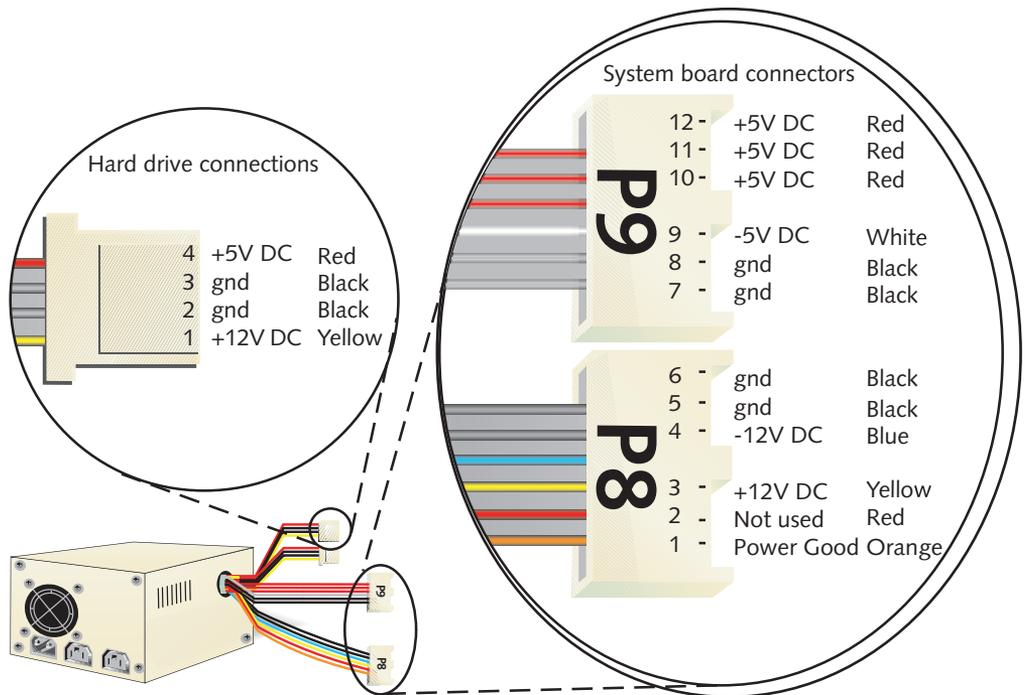

Figure E-6
1. Remove the cover of the computer. The voltage range for each connection is often written on the top of the power supply. The two power connections to the motherboard are often labeled P8 and P9. Figure E-6 shows a close-up of the two connections, P8 and P9, coming from the power supply to the motherboard. Each connection has six leads, for a total of 12 leads. Of these 12, four are ground connections and lead 1 is a “power good” pin, used to indicate that the motherboard is receiving power. Table E-2 lists the purposes of these 12 leads.
The power cords to the hard drive, CD-ROM drive, floppy drive, and other drives all supply the same voltage: one +5-volt circuit and one +12-volt circuit. These connectors use four leads; the two outside connections are hot, and the two inside connections are ground (see Figure E-6). The power connection to a 3.5-inch floppy disk drive is usually a miniature connection, slightly smaller than other drive connections, but still with four pins. Follow these steps to measure the voltage to any drive:
3. Place the red probe on lead 1, shown in the drive connection callout in Figure E-6, and place the black probe on lead 2 or 3 (ground). The acceptable range is +10.8 to +13.2 volts.